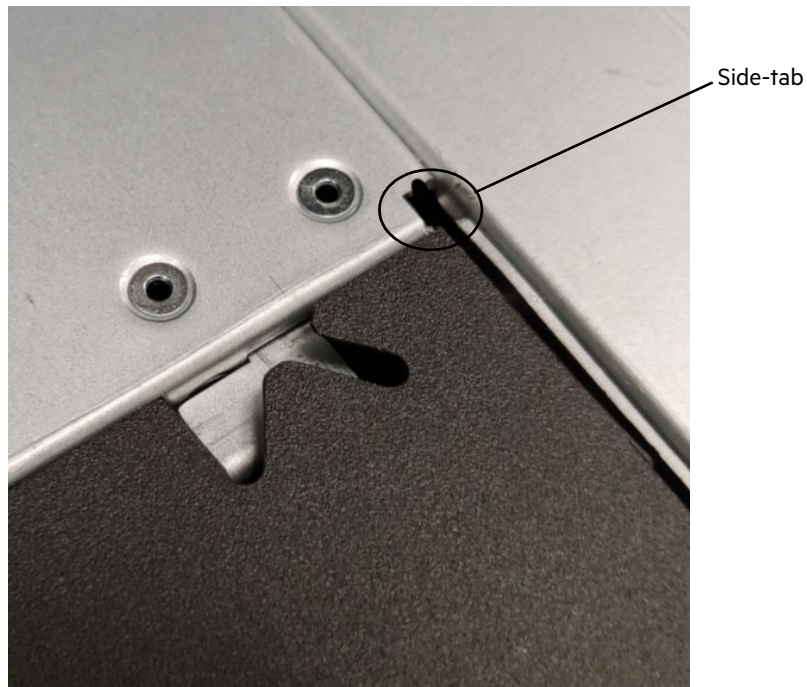

Figure 78 Side-tab removed from the enclosure
- Pull out the side-tabs from the enclosure (see Figure 78). This makes the Mylar tabs edge of the air retention cover free from the enclosure.